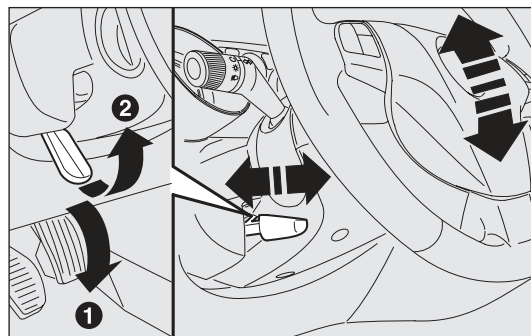

fig. 28
- ☐ release lever A-fig. 28 by pushing it forwards (position 1);